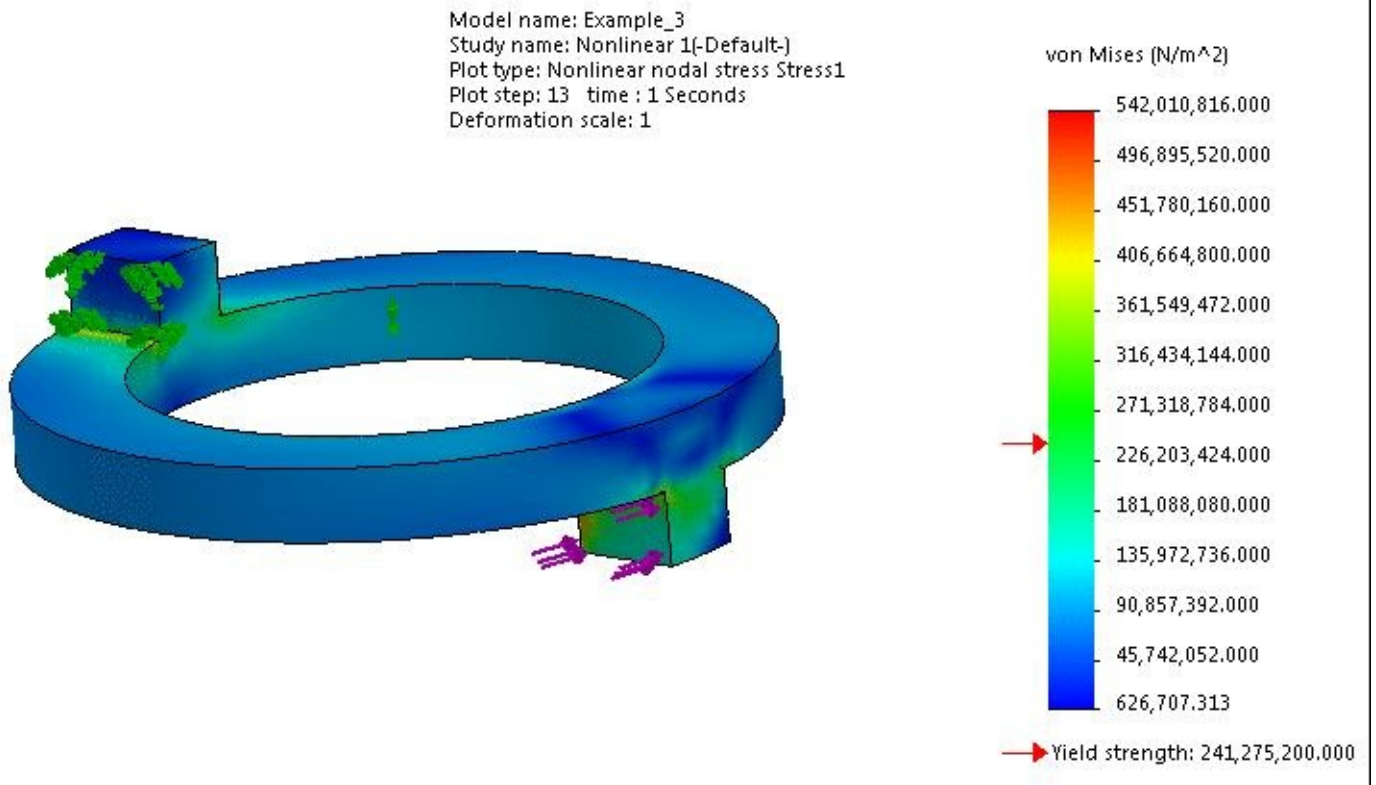

Figure-30. Result on applying torque
- After the processing is complete, the results will be displayed in the modeling area; refer to Figure-30.